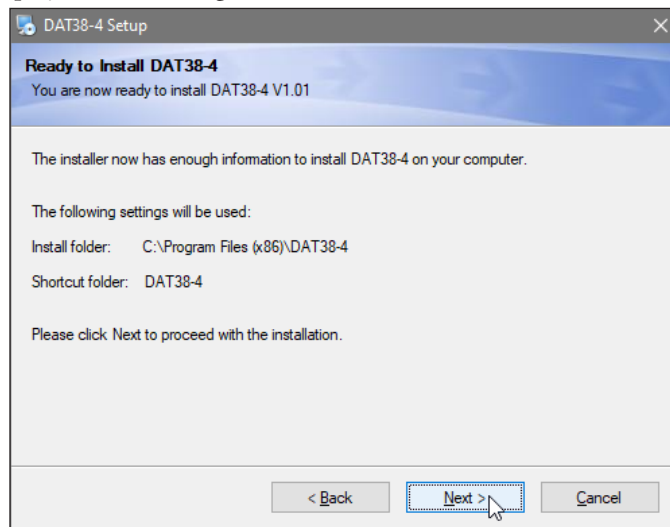
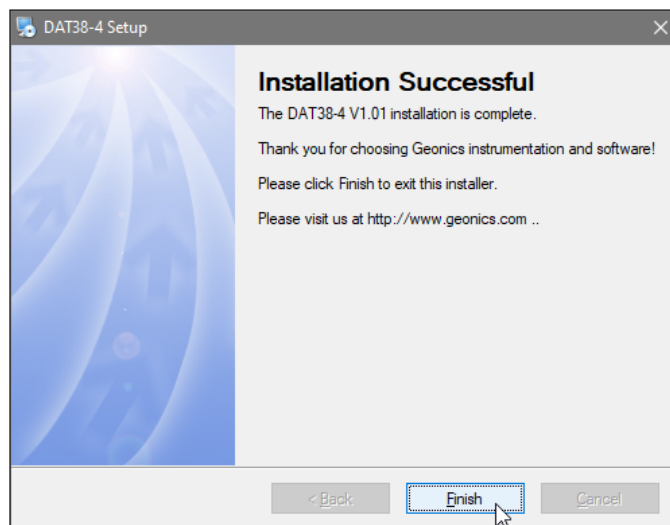

Figure 1.7 Ready to Install window
Figure 1.8 Finished window
6. In the Ready to Install window (Figure 1.7), click Finish to begin the installation. A progress bar will display the status (Figure 1.8).